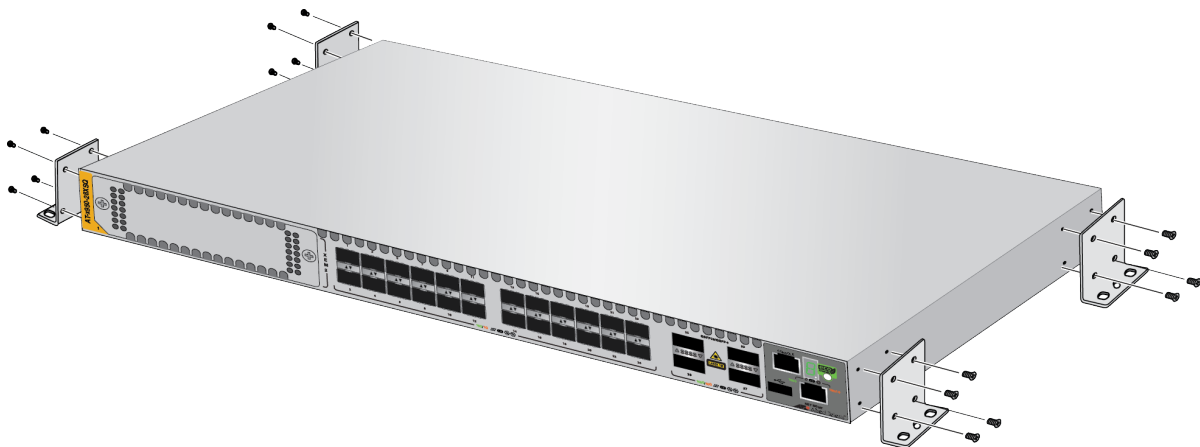

Figure 92. Installing the Brackets to the Switch for Wall Installation
2. Install the four brackets with the sixteen screws that come with the switch to the sides of the unit, as shown in Figure 92.
2. Install the four brackets with sixteen screws that come with the switch to the sides of the unit, as shown in Figure 92 on page 156.